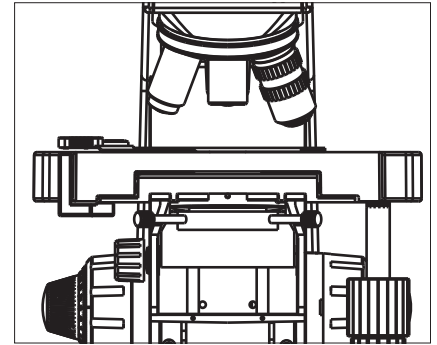

Fig. 6
6. Engage 4X objective in field. while viewing through the eyepiece focus specimen slide, a bright ring of light will appear in field of view. Bring this ring of light in the center of the field by manipulating two thumbscrews provided on the condenser bracket as shown in Fig. 6